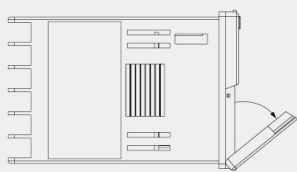

图1 Figure 1
a)用手卡住盖板左右两侧的凹形部分向外拉(如图1);
a) Clamp the concave parts on the left and right sides of the cover plate by hand and pull outward (as shown in Figure 1);